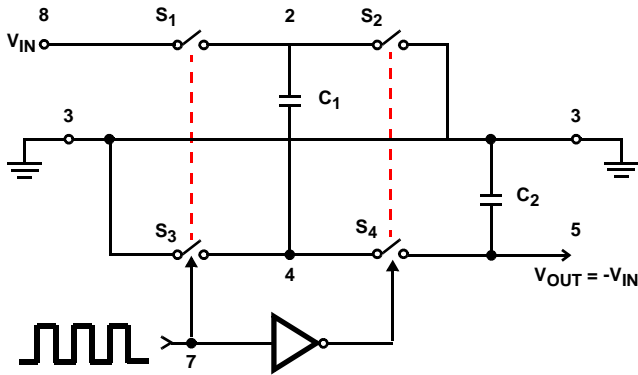
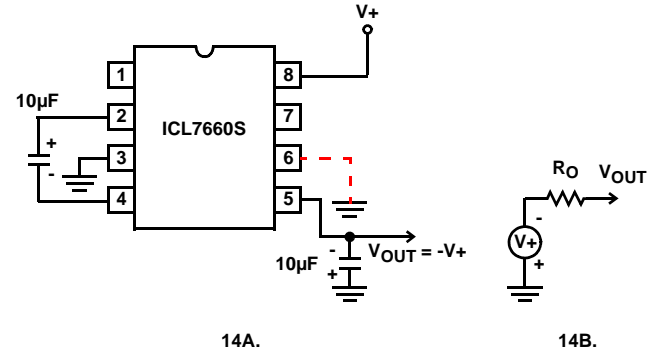
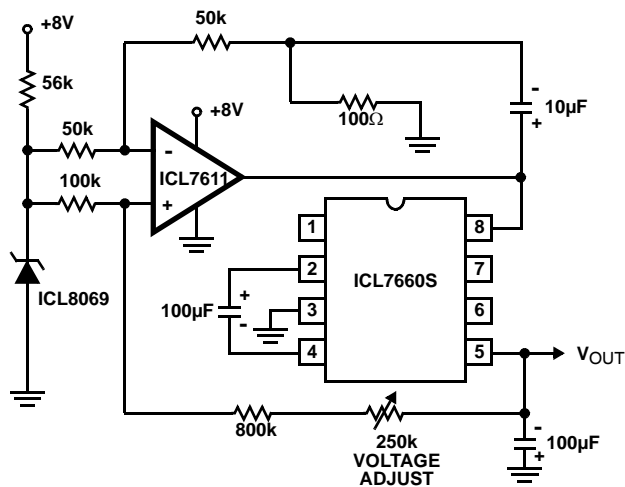

FIGURE 13. IDEALIZED NEGATIVE VOLTAGE CONVERTER
FIGURE 14. SIMPLE NEGATIVE CONVERTER AND ITS OUTPUT EQUIVALENT
FIGURE 20. REGULATING THE OUTPUT VOLTAGE
In the ICL7660S, the 4 switches of Figure 13 are MOS power switches; S_1 is a P-Channel devices and S_2 , S_3 and S_4 are N-Channel devices. The main difficulty with this
where V_1 and V_2 are the voltages on C_1 during the pump and transfer cycles. If the impedances of C_1 and C_2 are relatively high at the pump frequency (refer to Figure 13) compared to the value of R_L , there will be substantial difference in the voltages V_1 and V_2 . Therefore it is not only desirable to make C_2 as large as possible to eliminate output voltage ripple, but also to employ a correspondingly large value for C_1 in order to achieve maximum efficiency of operation.
The majority of applications will undoubtedly utilize the ICL7660S for generation of negative supply voltages. Figure 14 shows typical connections to provide a negative supply where a positive supply of +1.5V to +12V is available. Keep in mind that pin 6 (LV) is tied to the supply negative (GND) for supply voltage below 3.5V.
The output characteristics of the circuit in Figure 14 can be approximated by an ideal voltage source in series with a resistance as shown in Figure 14B. The voltage source has a value of $-(V^+)$. The output impedance (R_0) is a function of the ON resistance of the internal MOS switches (shown in Figure 13), the switching frequency, the value of C_1 and C_2 , and the ESR (equivalent series resistance) of C_1 and C_2 . A good first order approximation for R_0 is:
The ICL7660S may be employed to achieve positive voltage doubling using the circuit shown in Figure 20. In this application, the pump inverter switches of the ICL7660S are used to charge C_1 to a voltage level of $V_+ - V_F$ (where V_+ is the supply voltage and V_F is the forward voltage on C_1 plus the supply voltage (V_+) is applied through diode D_2 to capacitor C_2 . The voltage thus created on C_2 becomes $(2V_+) - (2V_F)$ or twice the supply voltage minus the combined forward voltage drops of diodes D_1 and D_2 .
Figure 21 combines the functions shown in Figure 14 and Figure 20 to provide negative voltage conversion and positive voltage doubling simultaneously. This approach would be, for example, suitable for generating +9V and -5V from an existing +5V supply. In this instance capacitors C_1 and C_3 perform the pump and reservoir functions respectively for the generation of the negative voltage, while capacitors C_2 and C_4 are pump and reservoir respectively for the doubled positive voltage. There is a penalty in this configuration which combines both functions, however, in that the source impedances of the generated supplies will be somewhat higher due to the finite impedance of the common charge pump driver at pin 2 of the device.